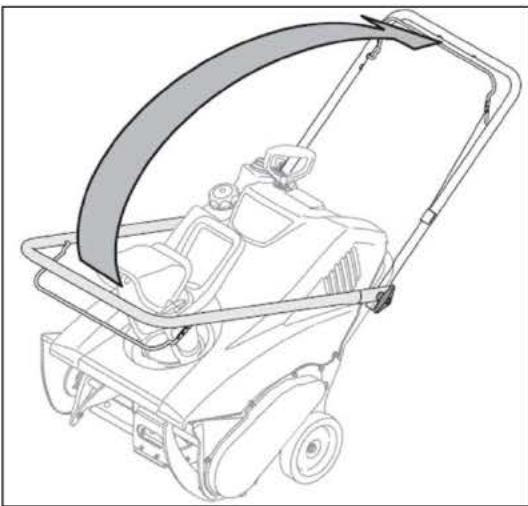

Figure 1
- Tighten the wing knobs to secure the handle in place. See figure 1.